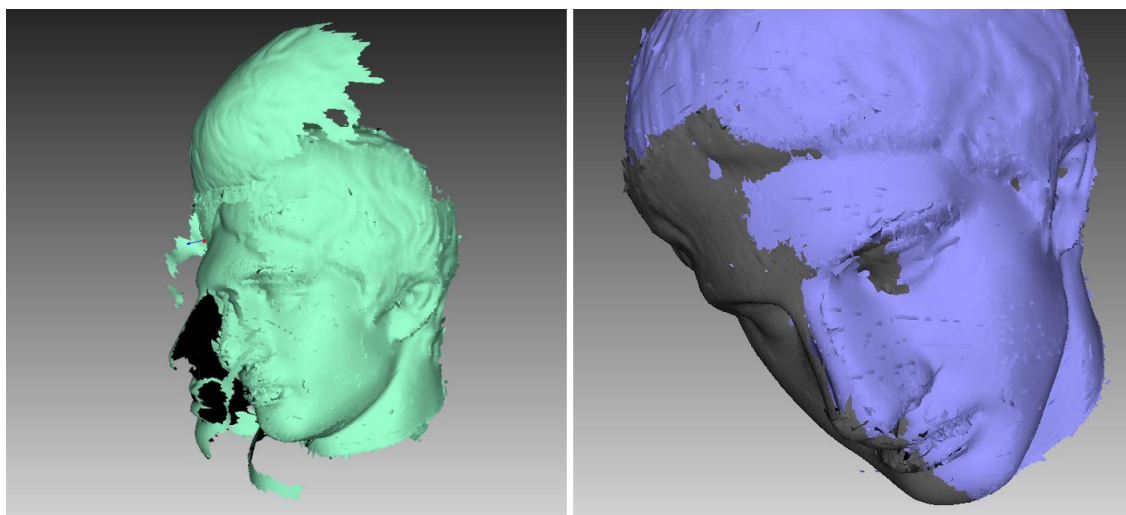

Figure 89: Global-registration errors: wrong settings on left and gap between scans on right.
- After the global-registration algorithm finishes, the frames are in disarray (see Figure 89, left) or the frame positions are unchanged. This error occurs because the application is configured for a different scanner type than the one that captured the data. Change the device type in the application settings (see Algorithm Settings).
- The algorithm has completed successfully, but a gap exists between two or more scans (see Figure 89, right). Select just these scans in the *Workspace* panel and run the global-registration algorithm. If the scans have drawn closer to each other but have failed to align after the algorithm finishes, increase the number of iterations and rerun the algorithm. Repeat this process until you achieve full alignment, then run global registration once again for all data. If you are unable to align several problematic scans, try aligning just two of them, then gradually increase the number of scans until all of them are aligned.